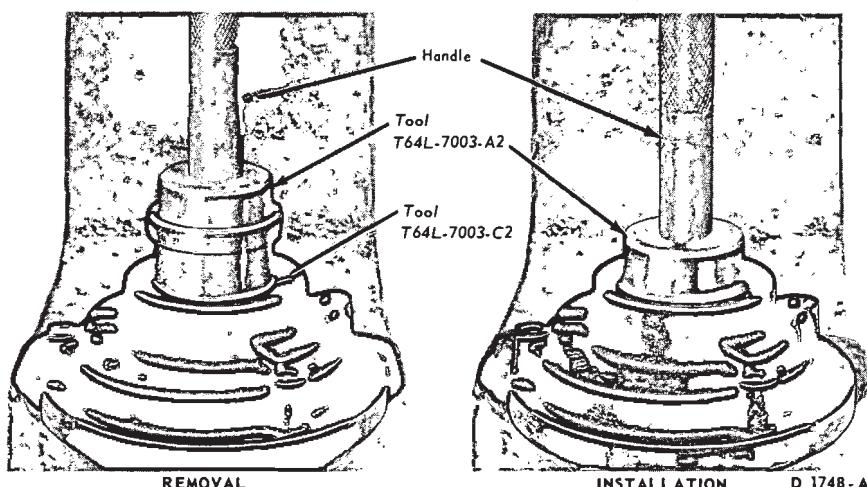

FIG. 41—Replacing Front Pump Housing Bushing
to be replaced, press the bushing from the front housing with the tools shown in Fig. 41.
5. Press a new bushing into the pump housing with the handle and tool shown in Fig. 41.